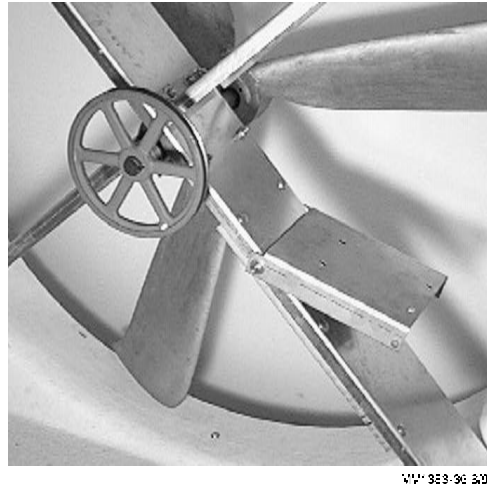

Figure 3. Fan Assembly with no Motor
1. **Figure 3** below shows the Fan if it is ordered without the Motor